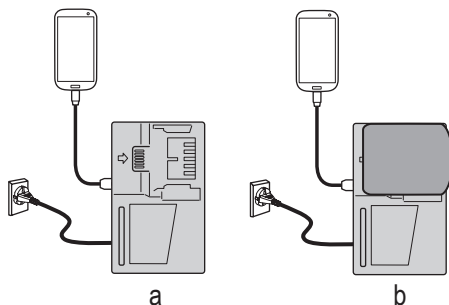

Fig. 22
- Charging a USB device from a electrical outlet. (Fig. 22-a)
- Charging a USB device and battery from an electrical outlet. (Fig. 22-b)